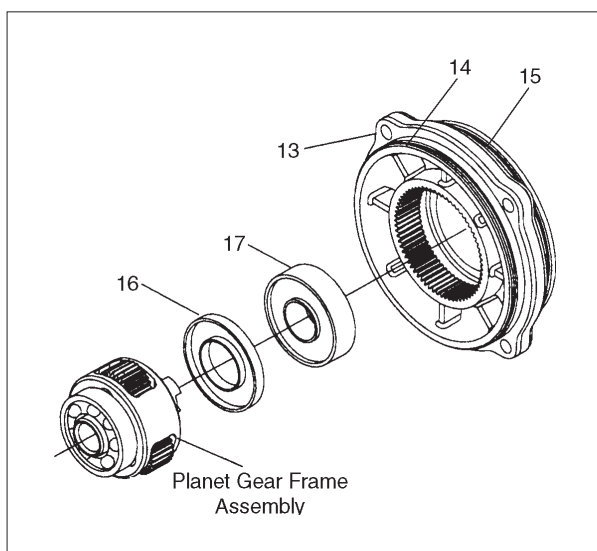

Fig 3.
8. Tap the intermediate gear case (13) with a plastic hammer to dislodge it from the gear case (28).
9. Position the intermediate gear case (13) on a bench in a copperfaced vise so that the intermediate pinion (26) is secured in the jaws of the vise. Tighten the vise only enough to hold the intermediate pinion securely.
10. Loosen the intermediate pinion retaining screw (27) 1-1/2 turns only. Do not remove.
12. Remove the intermediate gear case assembly from the vise and remove the intermediate pinion (26). Remove the rear gear case o-ring (14) and front gear case o-ring (15) from the intermediate gear case (13), See fig 3.